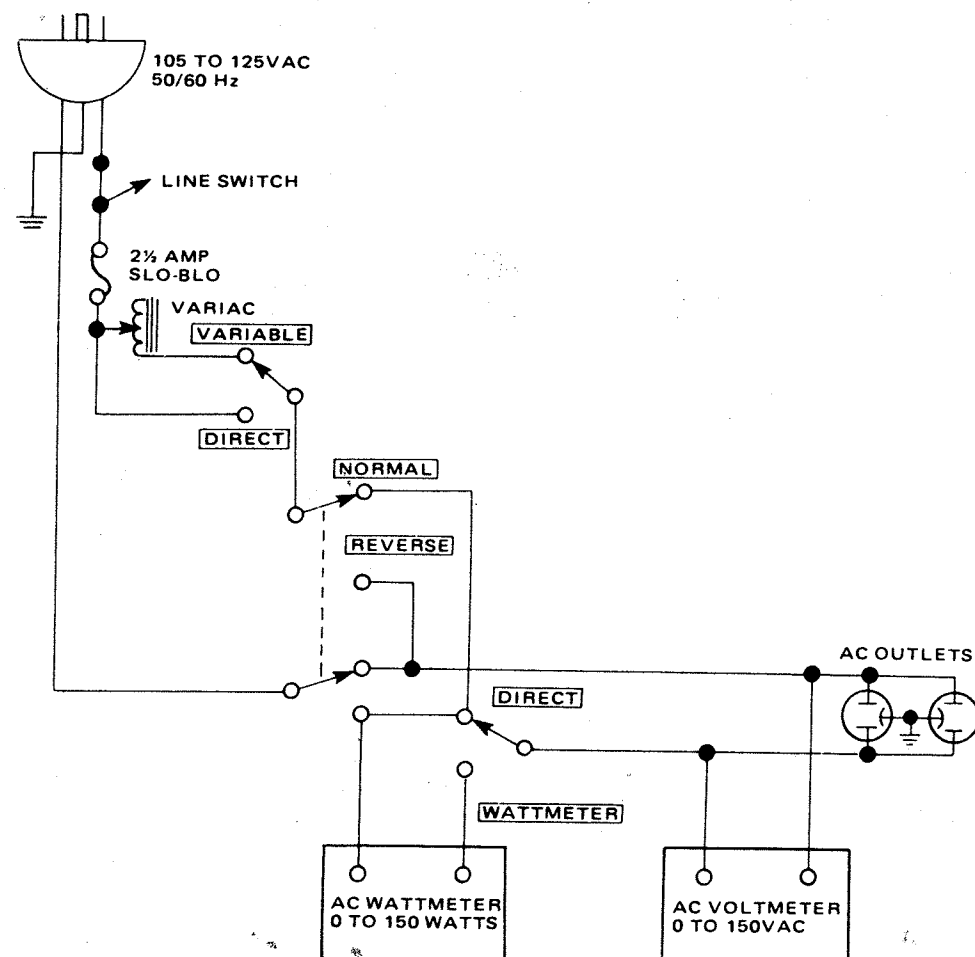
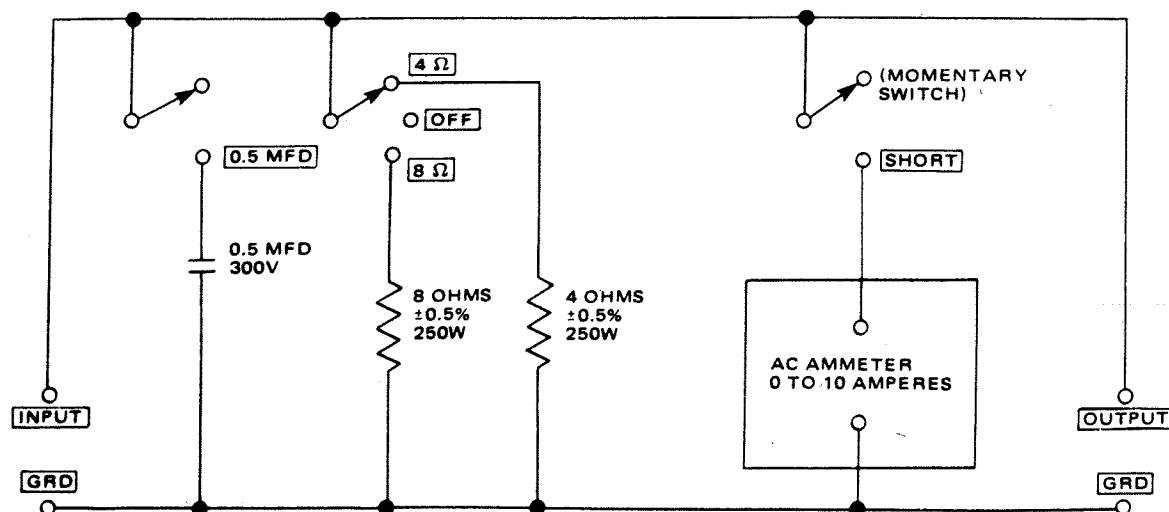

Figure 1. AC Power Control Box Simplified Schematic
Figure 2. Amplifier Output Load Box Simplified Schematic
Table 1 lists the test equipment required for servicing the Model PM325 Stereo Console Amplifier. The wattmeter, AC voltmeter, and variable autotransformer may be assembled as a test fixture as shown schematically in Figure 1. The load resistors and AC ammeter may be assembled into a second test fixture as shown in Figure 2.
1. Make the test setup shown in Figure 1 with the instrument controls set in the following positions: